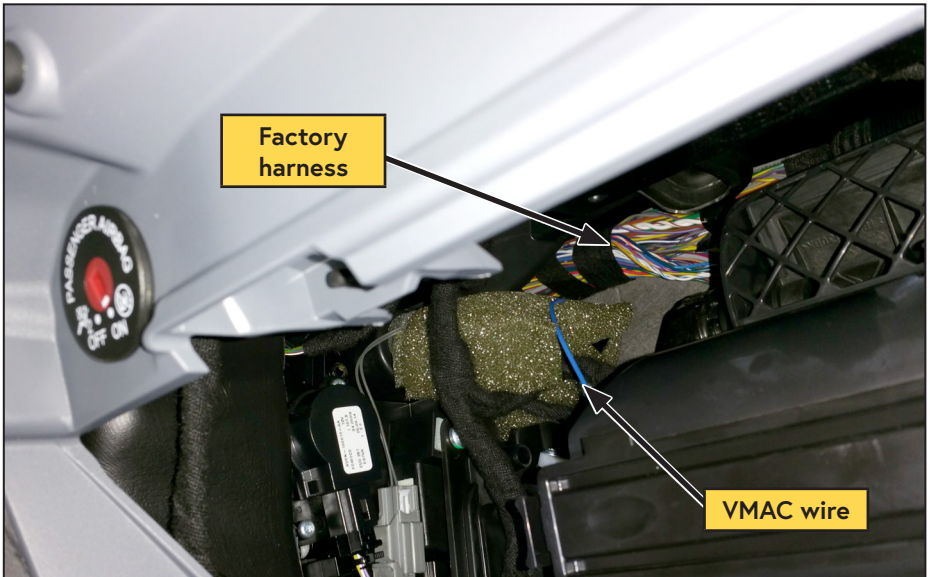

Figure 66 — Passenger dashboard
- Route the long blue wire from the Throttle Control above the driver side fuse box, along the factory wire harness located at the rear of the dashboard, to the passenger side of the dashboard. The wire will appear on the passenger side of the dashboard, above the HVAC system (Figure 66).